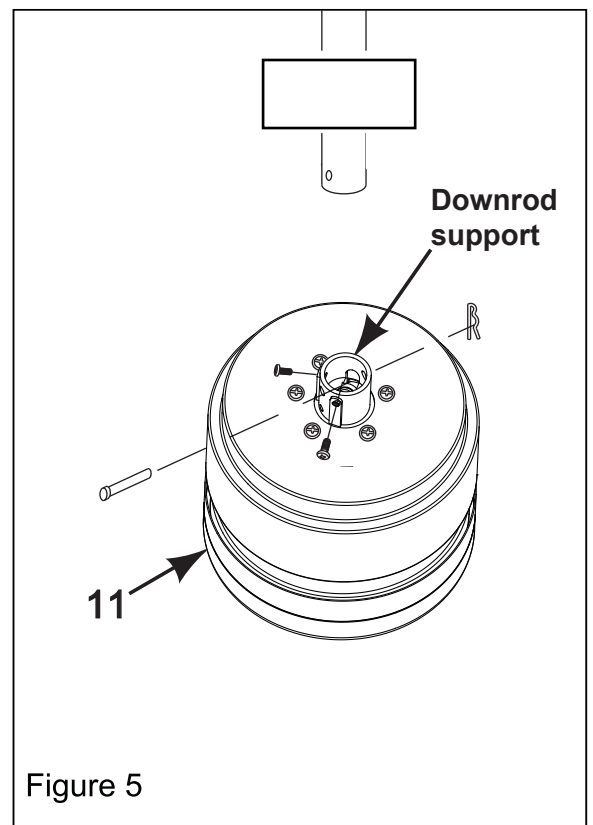

Figure 5
5. Place the downrod into the downrod support on motor.(Figure 5).